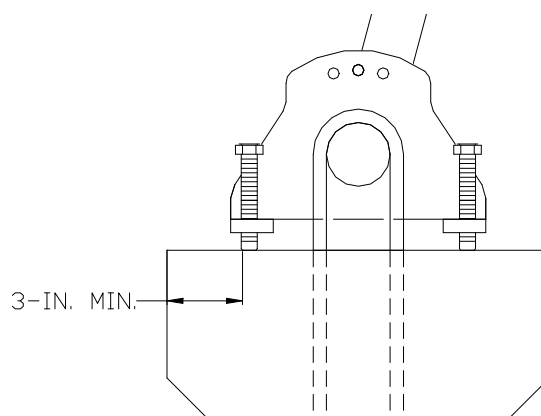

Figure 1c
5. Measure the distance from edge of adjusting bolts to nearest edge of concrete. If distance is less than 3-in., a steel plate with a minimum thickness of 0.25-in. must be placed under the adjusting bolt to prevent the bolt from causing a “compression blowout” during tightening. Each adjusting bolt that is closer than 3-in. to an edge must have a plate underneath (see Figure 1c).